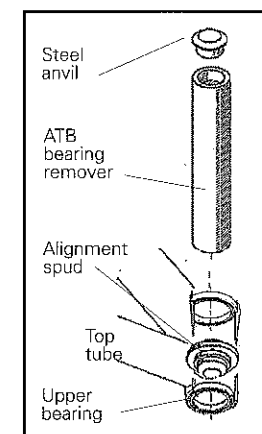

Fig. 49
3. Insert the large end of the **alignment spud** into the upper bearing (Fig. 49).